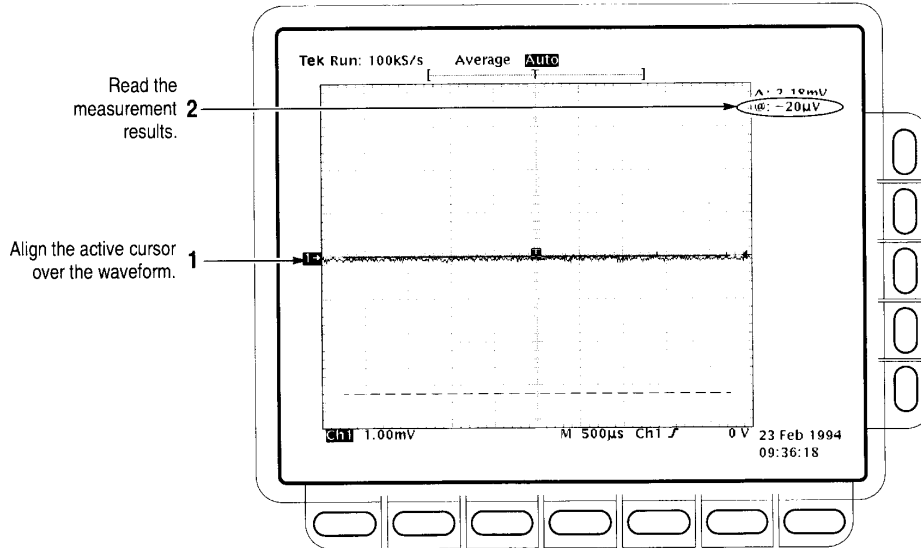

Figure 2. Dc offset.
- (12) Press front-panel **CLEAR MENU** key.
- (13) Press front-panel **CH 1** key.
- (14) Press front-panel **VERTICAL MENU** key.
- (15) Press main-menu **Fine Scale** key.
- (16) Use front-panel keypad to enter 1 mV vertical **Fine Scale** setting. Press front panel **1** key.
- (17) Press front panel **SHIFT** key.
- (18) Press front panel **m** key.
- (19) Press front panel **ENTER** key.
- (20) Press front-panel **CLEAR MENU** key.
(21) Rotate front-panel general purpose knob to align active cursor over waveform. See figure 2. If TI @ readout does not indicate within 0 V,  $\pm 1.6$  mV, perform **b** below.